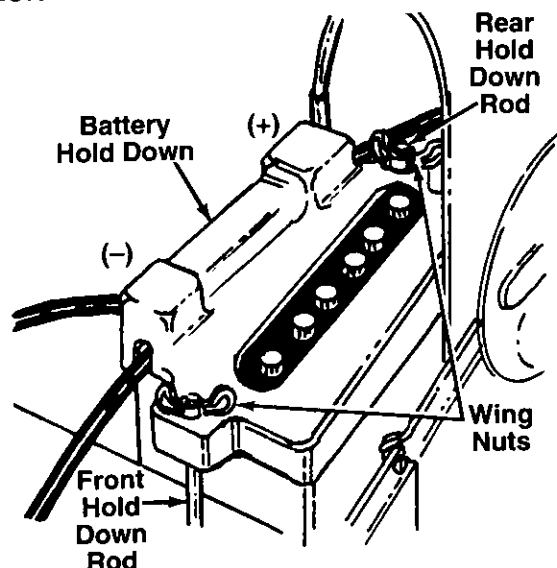

FIGURE 6.
6. Attach other hold-down rod to the other side of battery cover in the same manner. See figure 6.